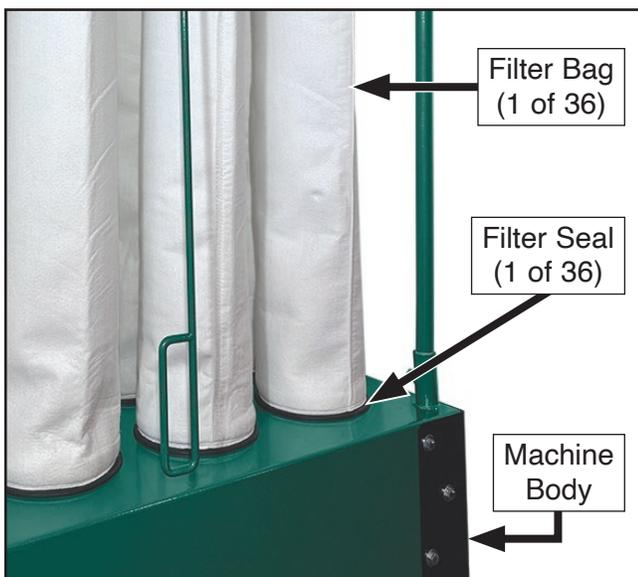

Figure 39. Filter seal properly seated in hole in machine body.
26. Ensure each filter bag seal is seated properly in hole in machine body (see **Figure 39**).